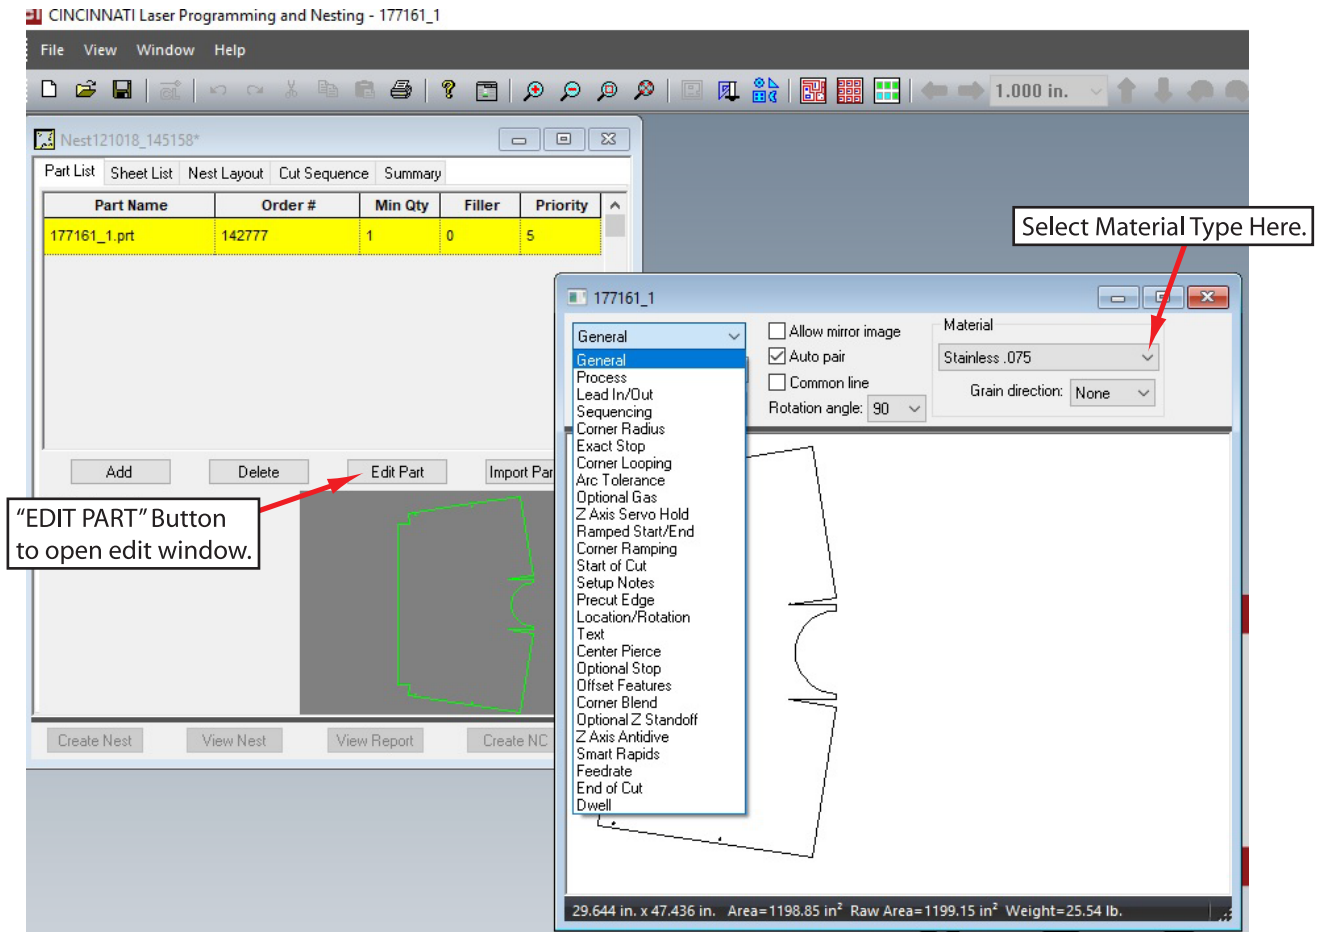

Fig.9
- 11) To check the part, the first thing you do is to click on the “EDIT PART” tab in the lower section of the parts list window, as shown below in Fig. 9, and an editing window will pop up showing the part and information about it. (NOTE: This is editing the part only, and has nothing to do with the “nest” itself, only the characteristics of the individual part you are working with)
- Now notice there is a pop-up menu in the upper left corner of the window that will be displaying “General”. Click on the menu and it will drop-down showing all the things you can check within your part. We will only use a hand ful of these as not everything pertains to us and our use. See Fig.9 below.